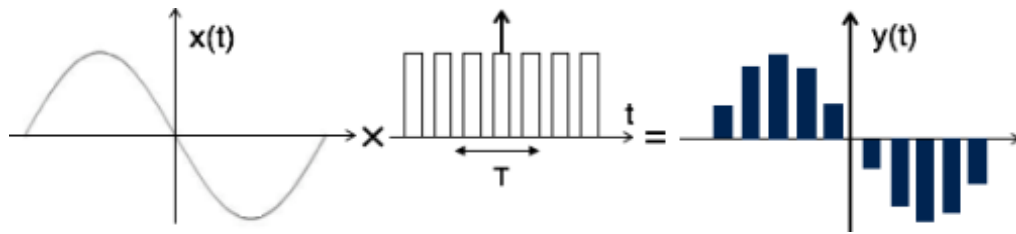

Figure 7.2: Flat top sampling process
2) **Flat top sampling:** it is like natural sampling i.e.; practical in nature. In comparison to natural sampling flat top sampling can be easily obtained. In this sampling techniques, the top of the samples remains constant and is equal to the instantaneous value of the message signal $x(t)$ at the start of sampling process. Sample and hold circuits are used in this type of sampling. During transmission, noise is introduced at top of the transmission pulse which can be easily removed if the pulse is in the form of flat top. It is shown in figure 7.2